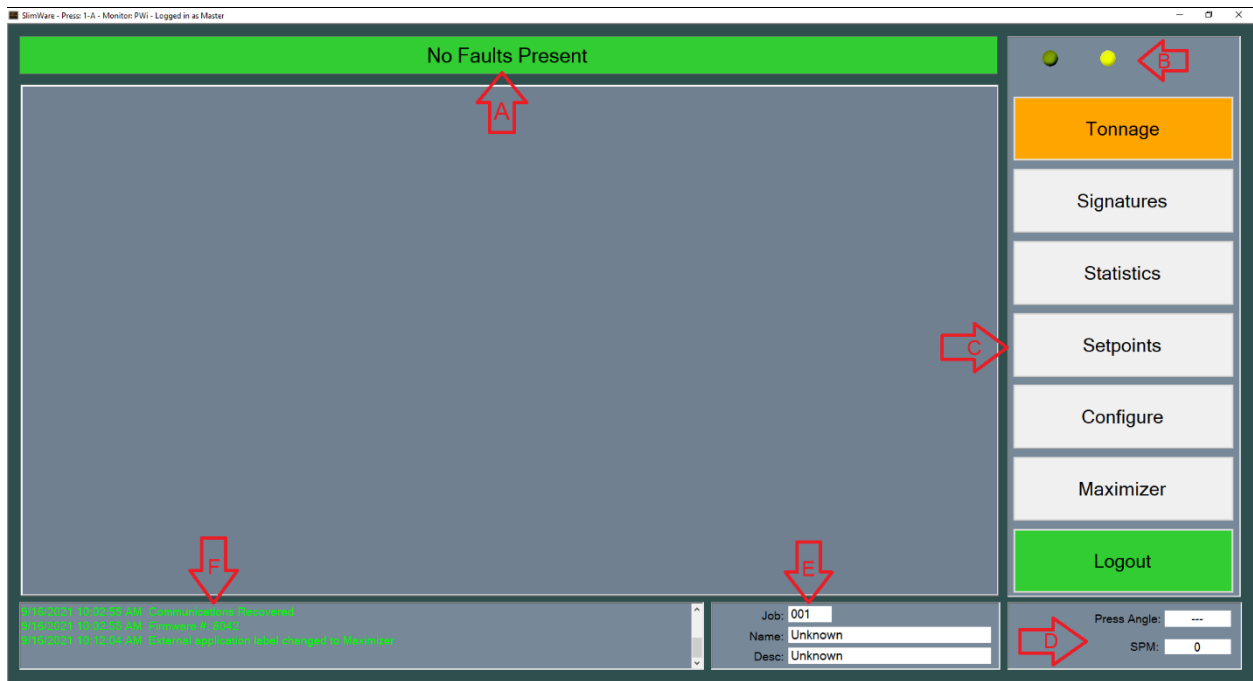

Figure 4-1 – SlimWare Main Window
- **Status Bar (A)** – Displays the current status of the tonnage monitor. If an alarm is detected, the status bar will flash red and white and display the highest level alarm. To reset an alarm, a user can simply click on this bar while alarmed.
- **Indicator Lights (B)** – In the top right-hand of the SlimWare windows are two (2) yellow LEDs. These represent the transmit and receive status of the communication with the tonnage monitor. If these LEDs are idle, this is due to a communication error.
- **Navigation (C)** – These buttons allow the user to navigate to the various pages throughout SlimWare.
- **External Application**– This button will call an external program (such as a SCADA program). This program is declared on the configuration page. In figure 4-1, the configured external program is the “Maximizer”, Toledo Integrated Systems’ proprietary automation program.
- **Press Angle (D)** – Displays the current angle of the press if a resolver, encoder, or gray code input is used.
- **SPM – Strokes Per Minute (D)** – Displays the speed at which the press is running.
- **Job Number (E)** – Displays the current job number loaded. If enabled, a user can click on the job number box and load or create a new job.
- **Job Name (E)** – Displays the current job name loaded. If enabled, a user can click on the job name box and load or create a new job.
- **Job Description (E)** – Displays the current job description loaded. If enabled, a user can click on the job name box and load or create a new job.
- **Historical Data Log (F)** – This displays all pertinent information regarding the tonnage monitor and any changes or alarms that occur. This log can be saved to a log file located in the user’s storage folder if “Data and Alarm Logging” is enabled from the configure page.